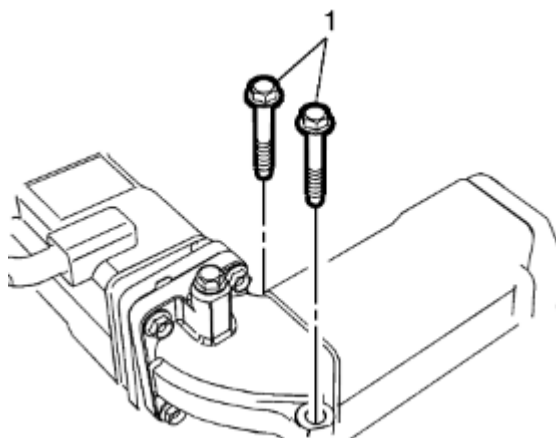

Fig. 137: Front EGR cooler mounting bolts installed
- b. Install the front EGR cooler mounting bolts as shown in figure 137. Torque the bolts to 18 ft-lb.